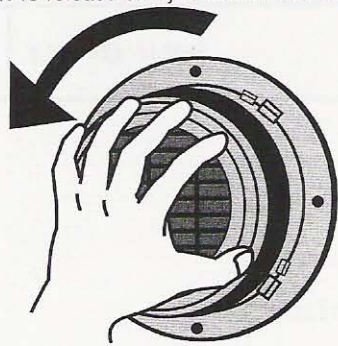

FIG. 7
12. This ventilator can be easily released off by twist anti-clockwise (see fig 7), for cleaning dust after long period running. To fix the unit by twisting clockwise into the 4 slots (see fig 8).